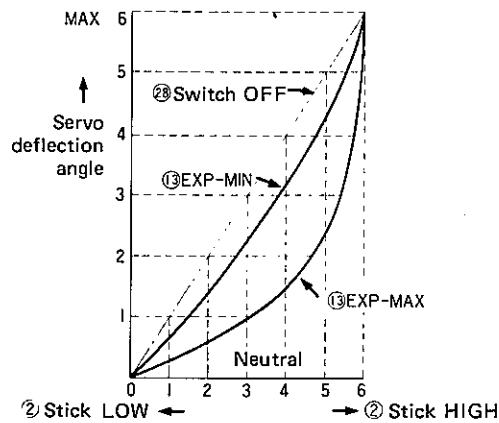
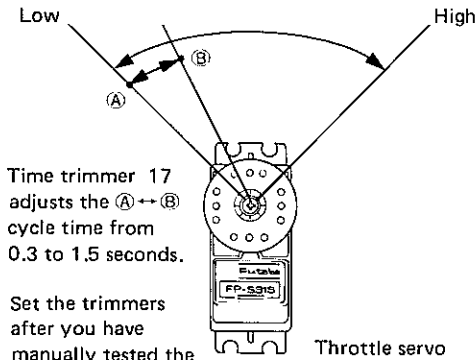

Fig. 11
Fig. 12
⑬ Throttle exponential knob
Throttle exponential (throttle EXP) is a system in which the throttle servo follows the movement of the throttle stick on an exponential curve as shown in Fig. 11. When throttle EXP is properly set, especially when the engine has a drum type throttle with round intake port, the relationship between stick operation and engine low and high speeds is well matched. This system can be reset with the throttle EXP ON-OFF switch ⑳. The EXP circuit is operating when the switch is in the ON position. EXP is OFF when switch is in the NORM position. A little EXP is applied as shown in Fig. 11 even when the throttle
EXP knob is set to 0 (EXP MIN). When the knob is set to ⑩ (EXP MAX), servo operation is less severe near the stick LOW side and is more severe at the stick HIGH side as shown in Fig. 11.
- ⑭ Warm-up switch
- ⑮ Warm-up throttle point trimmer (A)
- ⑯ Warm-up throttle point trimmer (B)
- ⑰ Warm-up time trimmer
Throttle warm-up is a device which automatically cycles the throttle servo low ↔ medium low (high). When the warm-up switch ⑭ (called switch ⑭ hereafter) is turned on, this device operates, and the throttle servo is cycled back and forth between the position set at the warm-up throttle point trimmer (A) ⑮ (called trimmer (A) hereafter) and the position set at the warm-up throttle trimmer (B) ⑯ (called trimmer (B) hereafter) at the period set at the warm-up time trimmer ⑰ (called time trimmer ⑰ hereafter). At this time, the throttle stick is disconnected and has no effect on the servo. Throttle servo can be set over its total travel with trimmers (A) and (B). If trimmers (A) and (B) are set to points (A) and (B) as shown in Fig. 12, the throttle servo can be automatically cycled back and forth between (A) and (B) by setting the warm-up switch ⑭ to ON. If points (A) and (B) overlap, the servo will stop at that position and will not cycle even if the warm-up switch ⑭ is set to ON.